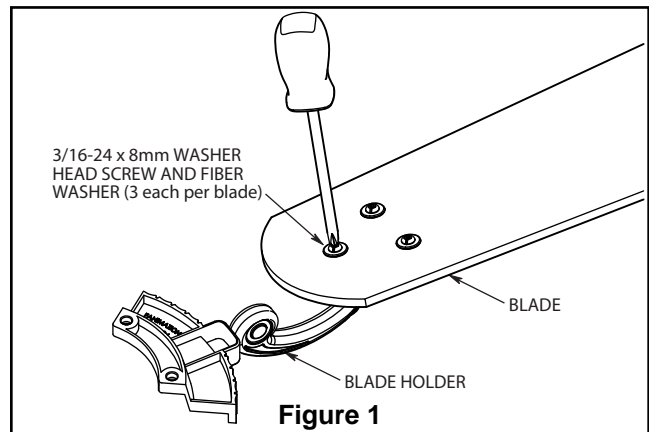

Figure 1
1. Position the blade over the blade holder with threaded posts showing. Make sure the bottom edge of the blade is fully seated against the blade arm. With a Phillips screwdriver, tighten 3/16-24 x 8 mm washer head screws and fiber washers to secure the blade to the blade arm (Figure 1).